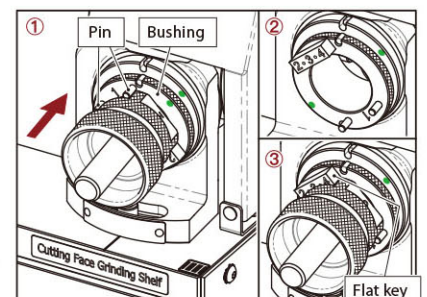

Fig. 10-3
3. 4 Flute Cutting Face Grinding (III) (Fig. 10-3)
- ① Insert the chuck set into the bushing on the Shelf (III), align Slot No.1 to the two pins where marked as No.1, push the chuck set gently until the grinding noise stops, then take the chuck set out.
- ② Turn the bushing to No.(2-3-4), align No.(2-3-4) to the pin on the shelf, then insert it to the end.
- ③ Insert the chuck set into the bushing, align Slot No.2 to the flat key where marked as No.(2-3-4), push the chuck set gently until the grinding noise stops. Turn the chuck set to grind the Slot No.3 and Slot No.4 in the same way.